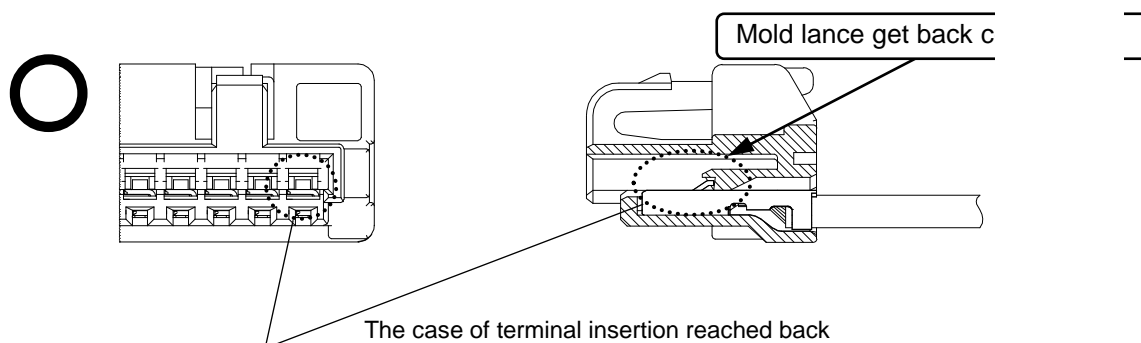

Fig.6-4 The case of correct insertion
- ⑤ After inserting all terminals, please confirm the position of terminal lance part by seeing through window of plug mold lance. If they are inserted correctly, terminal lance is at the position where terminal lance get over mold lance properly and you can confirm clearance by shaking them insertion axially lightly. **(Fig.6-4,6-5)**